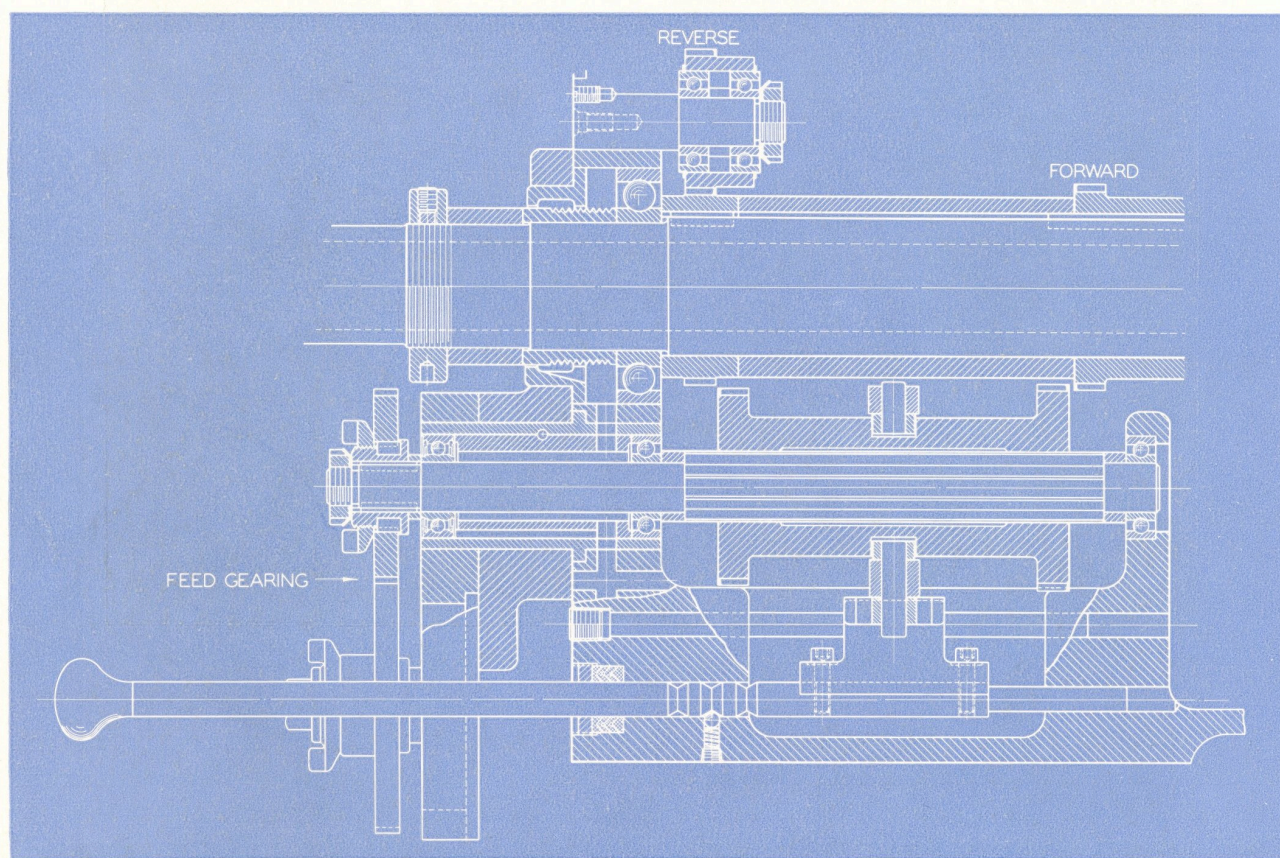

Figure No. 5, Diagram of Mechanism for Reversing the direction of the Leadscrew and Feed Rod.
**REVERSE FOR LEADSCREW AND FEED ROD**—Except when the leadscrew reverse from apron is supplied, the leadscrew and feed rod are reversed by operating the pull-rod at the end of the headstock inside the swinging cover, Figure No. 5. There are no binder bolts to loosen and tighten. The direction plate on the pull-rod states that for right-hand threads the pull-rod should be pushed in, and for left-hand threads, pulled out; there is a center neutral position which completely disengages the change gears and the gear box from the spindle.